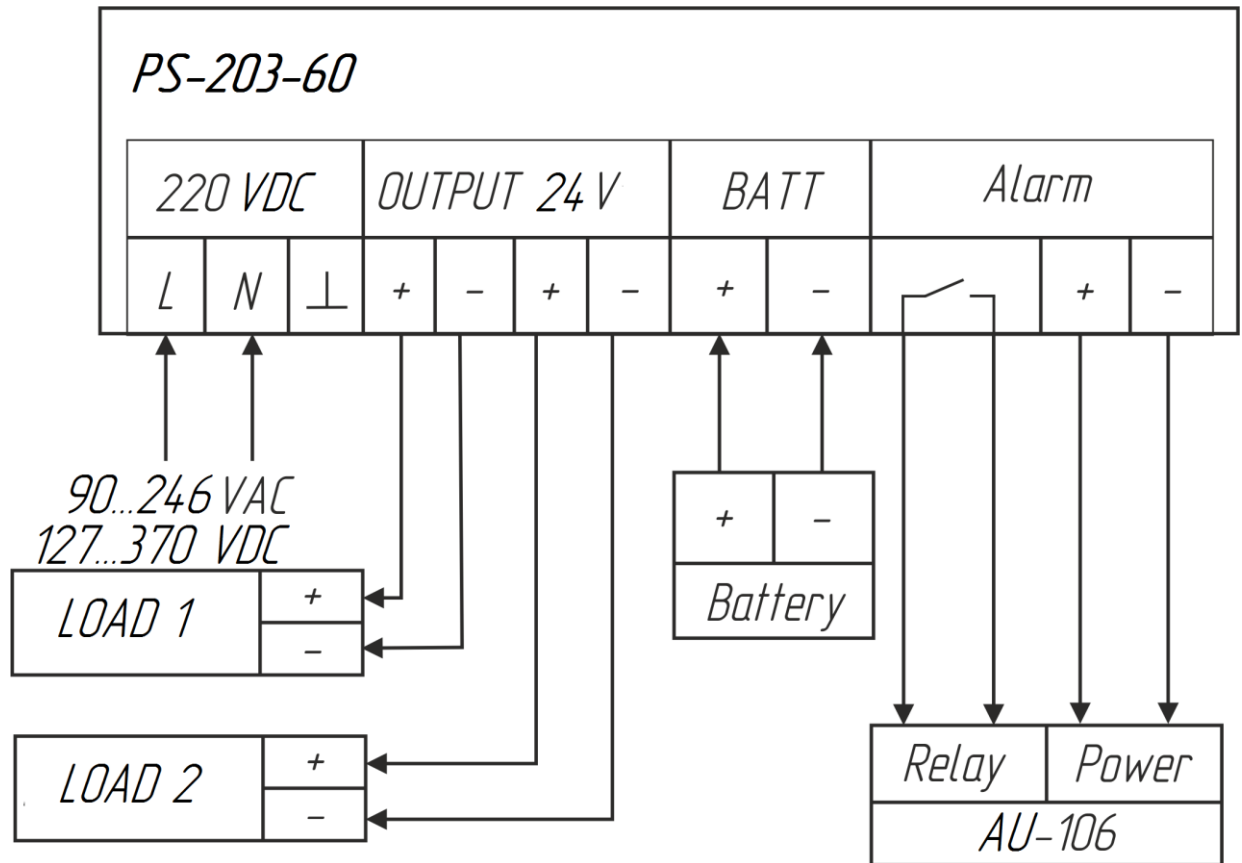

Figure 2 – Connection diagram
1.3.2 Power from standby sources or SB is supplied to the Product terminals ensuring uninterruptible operation of the connected equipment, see Figure 2.